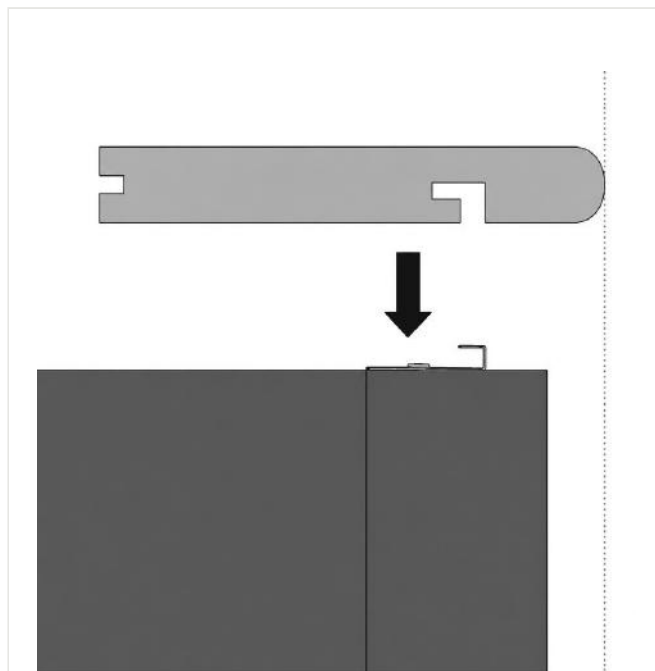

FIG. 18 – EDGE-BOARD GROOVE LAID ONTO THE STARTER FASTENERS
- 03 Line up the edge board and lay the underside groove directly on top of the starter fasteners (fig. 18).